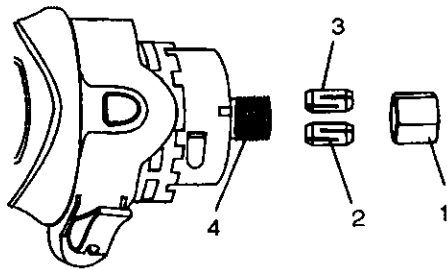

Fig. 3
The cutting bits for this tool are locked into place with a collet nut (1) and collet (see Fig 3) The tool is assembled at the factory with NO collet installed Both the $\frac{1}{8}$ " and $\frac{1}{4}$ " collets can be found in the carrying case front lid storage compartment The $\frac{1}{8}$ " collet (2) is used for holding hobby tool accessory bits The $\frac{1}{4}$ " collet (3) is supplied for holding SMALL router bits with a $\frac{1}{4}$ " shank